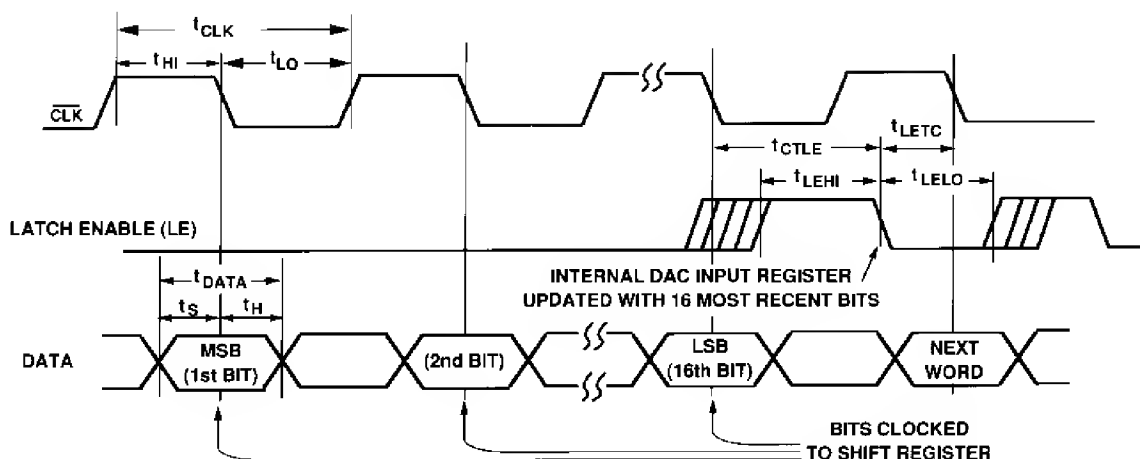

Figure 2. AD766 Serial Input Timing
Serial input data is clocked into the AD766's shift register by the falling edge of  $\overline{\text{CLK}}$ . Data is presumed to be in two's complement format with MSB (i.e., the sign bit) clocked in first. The shift register converts the most recently clocked-in 16 bits to a parallel word. The falling edge of the latch enable (LE) signal causes the most recent parallel word to be transferred to the internal DAC input latch. See Figure 2 for detailed serial port timing requirements.